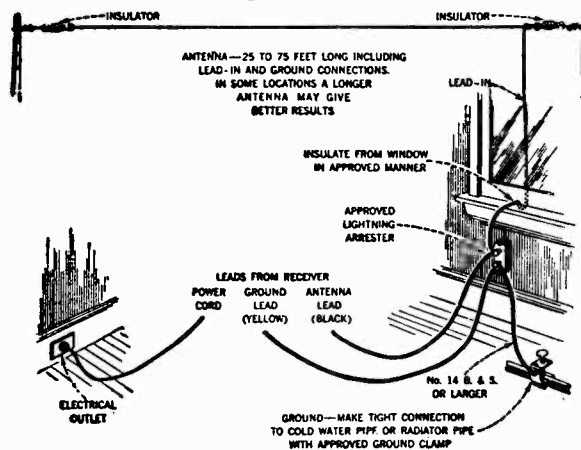

Figure 1
**External Connections**—Figure 1 shows the external connections and recommended antenna system. It is essential